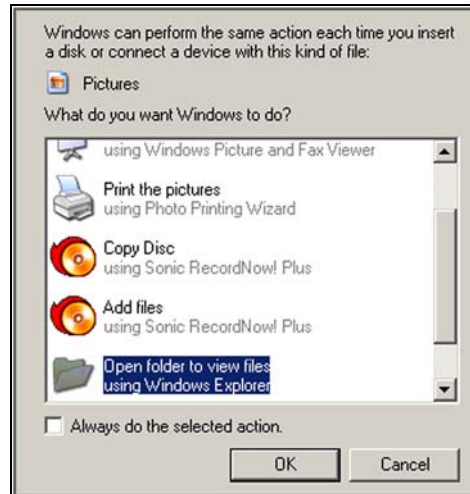

Figure 2-29 Sample “removable disk” dialog
7. If a "removable disk" dialog automatically opens on your PC, click **Cancel** (Figure 2-29).